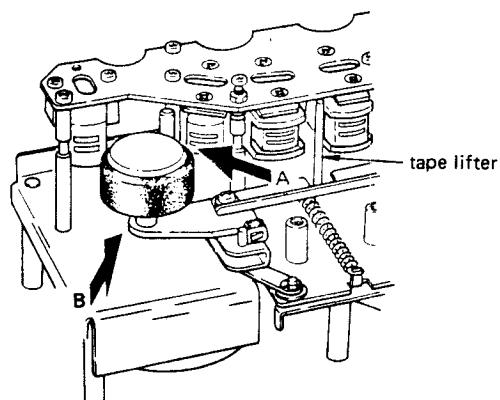
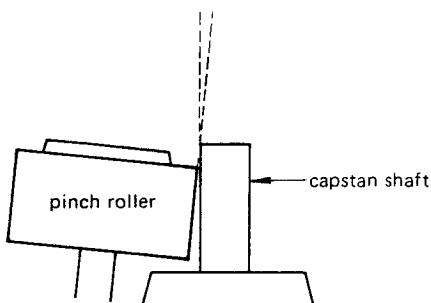

Fig. 2-15 Directions for pinch roller parallelism check
Fig. 2-16 View in direction A (example of non-parallelism)
1. Let pinch roller draw near toward capstan shaft by manually lifting up tape lifter shown in Fig. 2-15.
2. Check pinch roller/capstan shaft parallelism viewed from direction of arrow A shown in Fig. 2-15. Refer to Fig. 2-16.